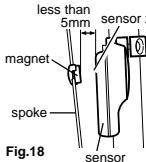

Fig.18
- A 5mm clearance shall be kept between the sensor and magnet(fig.18). Then align the magnet with sensor zone (fig.16). Meanwhile, the sensor shall aim at the main unit indicated by the triangle marked on the sensor. Then tighten the screw to secure the sensor in position. Cut the excess sensor band B with scissors or the like.